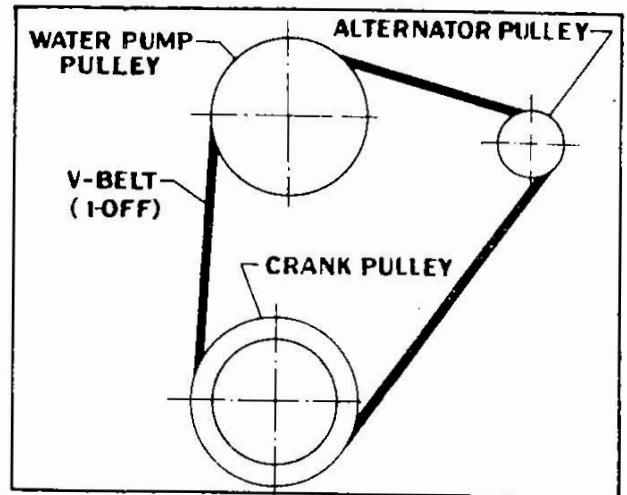

Fig.3.28
*A single belt is used to drive water pump and alternator/dynamo from crank pulley (Fig.3-28).